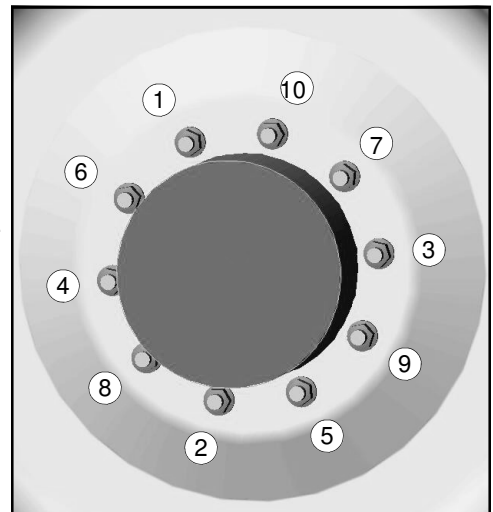

FIG 6.19-3
**Even pressure of the tread adjust bearing plates is required for proper operation!** (fig. 6.19-3) Figure A shows the correct position of the tread adjust bearing plates and bolts as well as the outer leg. Figure B shows the plates when there is not even torque on each of the tread adjust bearing bolts. Figure C shows a situation in which there is not enough torque on the tread adjust bearing bolts. Both figure B and C will cause the tread adjust to operate incorrectly or not at all.